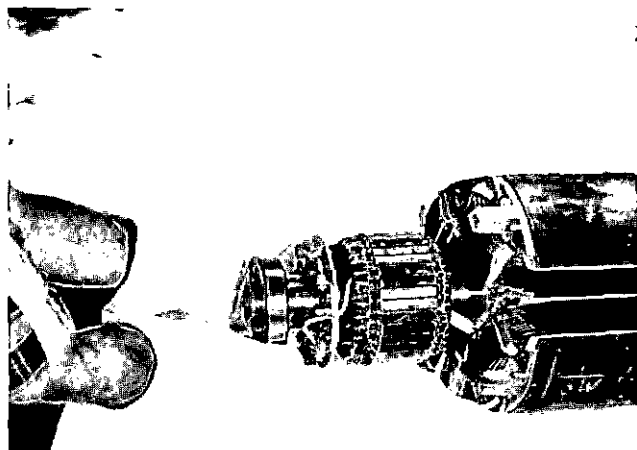

FIGURE 6-24
3. Heat the new bearing in an oven to a maximum temperature of 212°F (100°C). Apply a thin coat of clean lubricating oil to the press-fit area of the rotor shaft. Using suitable heat resistant gloves, install the bearing over the end of the shaft until it seats against the shaft shoulder. (Figure 6-24.) The bearing should slide on the shaft and be seated without excessive force. If the bearing binds on the shaft before being fully seated, a piece of tubing, slightly larger than the press-fit area, can be used to drive the bearing into place. Using light taps with a soft mallet, apply pressure to the inner race only.